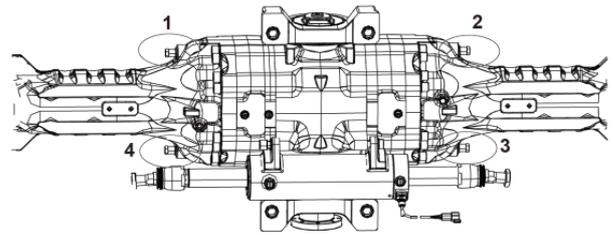

Figure 10-2 Brake release
- 2) Unscrew the four brake release screws of the rear axle inwards, as shown in Figure 10-2.